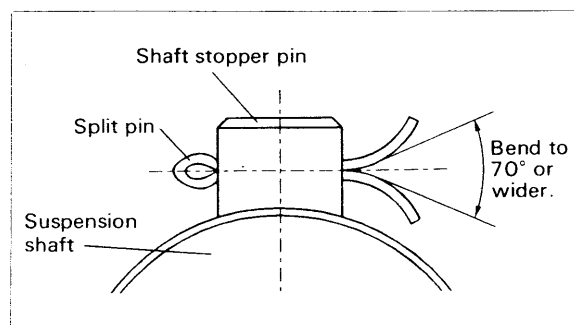

Fig. 7
- (3) Bend the split pin of the shaft stopper pin as shown in Fig. 7.
- (b) When there is no space between the end of beam and building, first remove the side plate S from the suspension shaft. After placing the side plate G on the other side of the flange, reassemble and re-install side plate S as it was before. Also, bend the split pin of shaft stopper pin correctly as shown in Fig. 7.